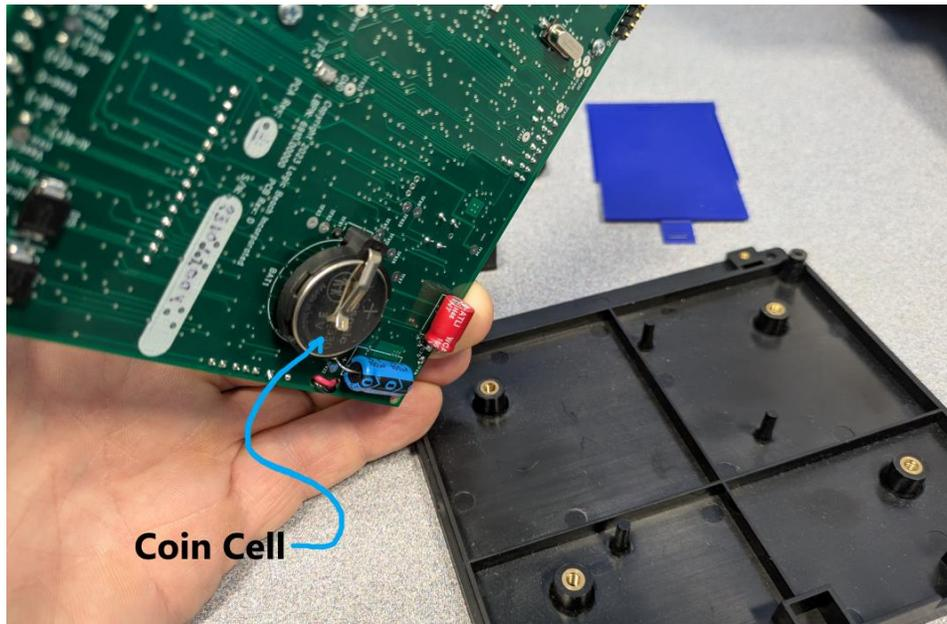

Fig 15; Coin Cell and socket
9. With a finger or non-conductive stick (eg a popsicle stick), slide the BR2330 coin cell sideways out of its holder without applying excessive upward force that could bend the spring arm that holds the coin cell in place. ( Fig 15)